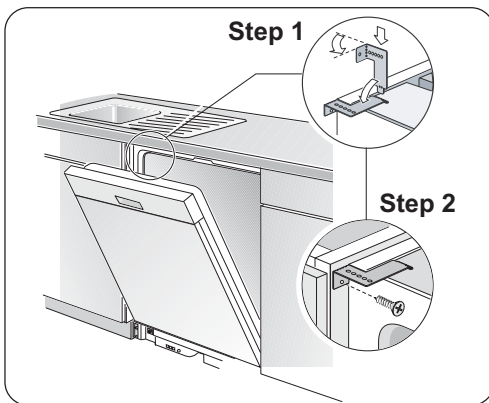

Figure 11
- 2 Side Mount** is used for countertops made of marble, granite, or other very hard materials that cannot be easily drilled. Bend the mounting brackets along the small holes and in the same direction as the two small tabs. Orient the mounting brackets as shown in **Figure 11**, and position the two small tabs on the mounting brackets over the two slots on the dishwasher's front corners. Push the mounting brackets down firmly to insert the tabs into the slots.